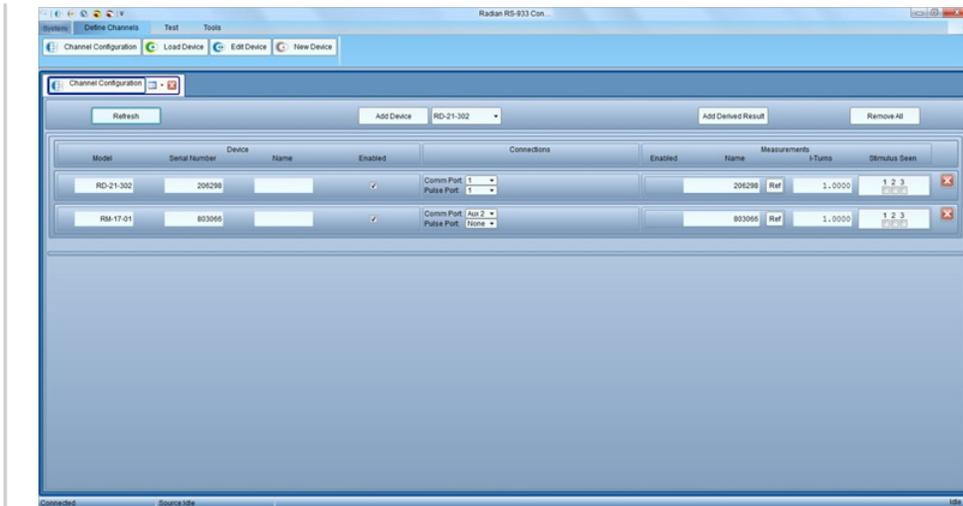

Figure 2:
10. Select refresh to have the RS-940 search for connected devices. All known serial attached devices will automatically populate on the Channel Configuration window. Figure 2 shows the devices as they were automatically added to the Channel Configuration window.